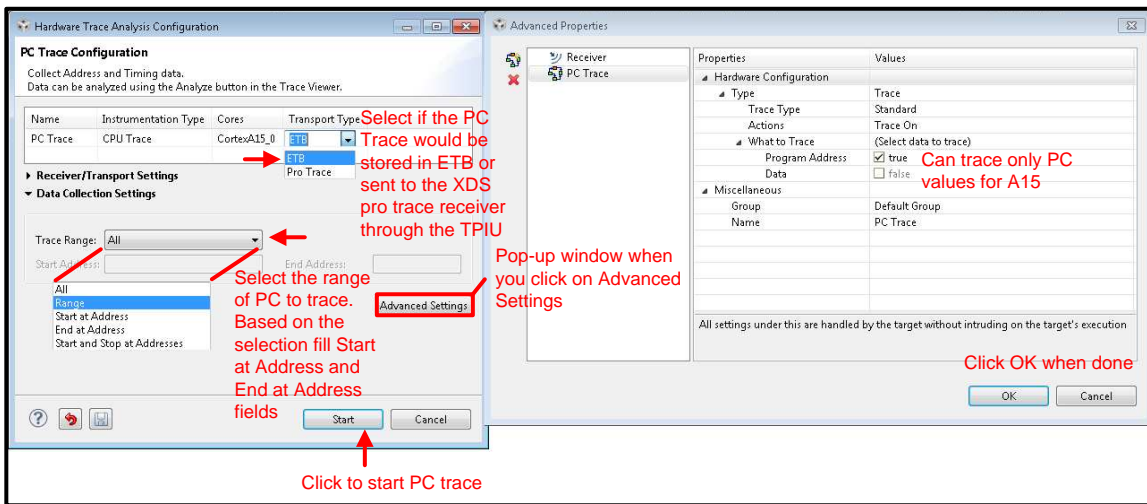

Figure 21. Cortex-A15 PC Trace Hardware Trace Analysis Configuration and Advanced Properties Windows
- This action opens a pop up window that can be used to further configure the PC trace feature. Figure 21 shows the Cortex-A15 PC trace hardware trace analysis configuration and Advanced Properties windows.